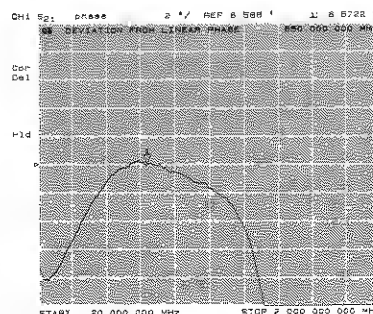

Figure 8. Expanded plot allows fine-tuning of the electrical delay.
4. Expand the scale and fine-tune the electrical delay to flatten the phase near the center of the passband (see Figure 8).